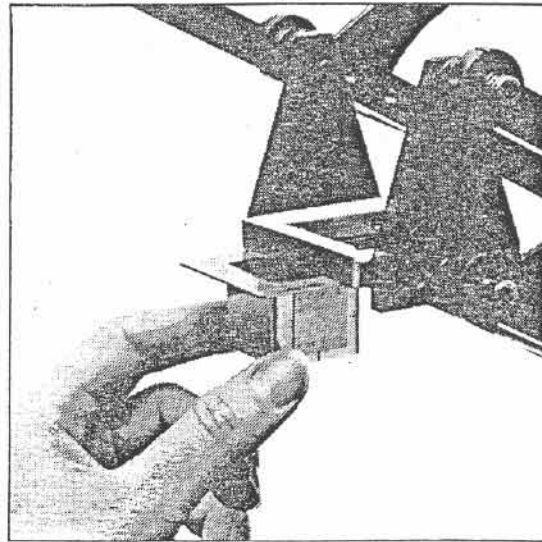

FIGURE 6. POSITIONING NOZZLE
- slide Nozzle into Nozzle Holder Assembly, make certain Nozzle is fully seated, refer to Figure 6,
- slide Nozzle into Nozzle Holder Assembly, make certain the Nozzle is fully seated, refer to Figure 6,